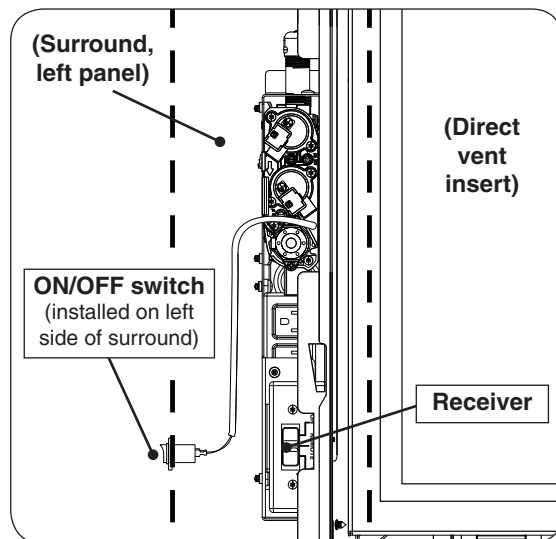
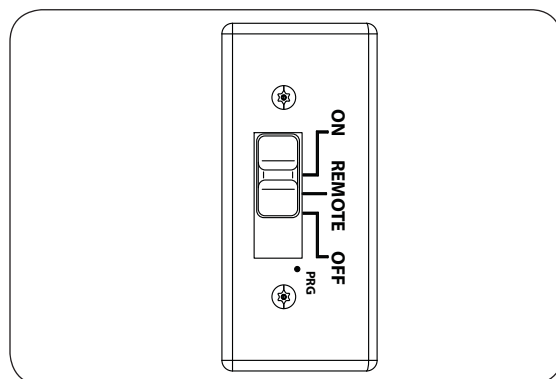
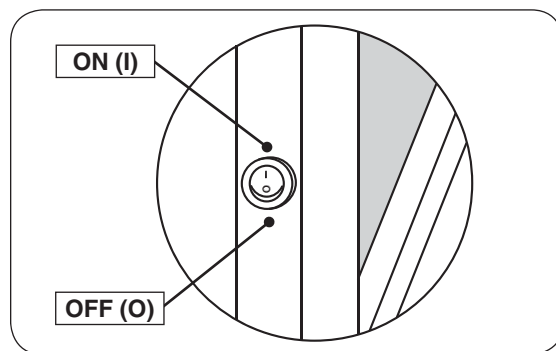

Fig. 43-1 Control box (left side, behind surround)
Fig. 43-2 Receiver detail
Fig. 43-3 ON/OFF switch detail
1. The control box is on the left side of the unit. Locate the receiver on the control box (see Fig. 43-1). Slide the 3-position switch on the receiver to the **ON** position (see Fig. 43-2).
2. Locate the ON/OFF switch on the left side of the surround (see Fig. 43-1). Switch it to the **ON (I)** position (see Fig. 43-3). The ignition sequence will begin.